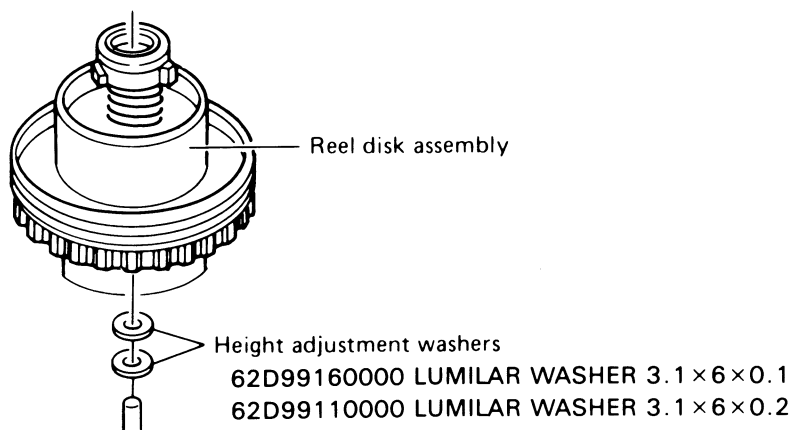

Fig. 5 Washers for height adjustment
4. If it is necessary to adjust the height, add or subtract the required number of height adjustment washers as shown in **Fig. 5**.